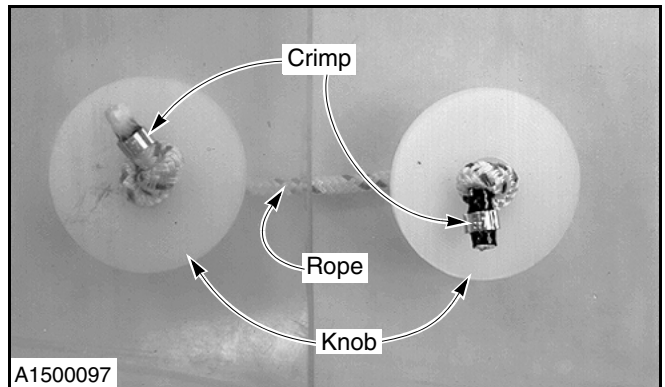
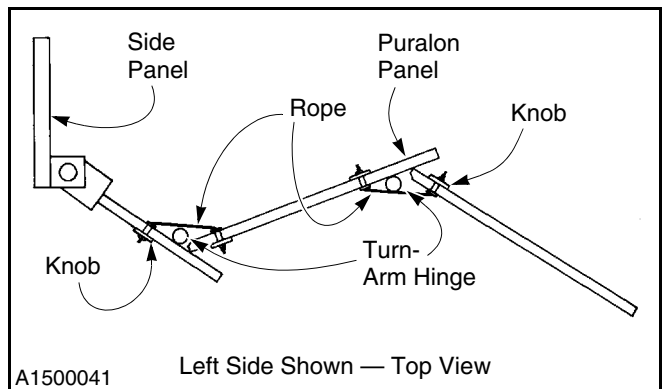

Figure 60
Figure 61
12. Repeat the above steps for each pair of knobs. Figure 60 shows a complete set of knobs with a knot and a crimp at each end of the tie. Figure 61 illustrates a complete rope tie on both sides of the door.